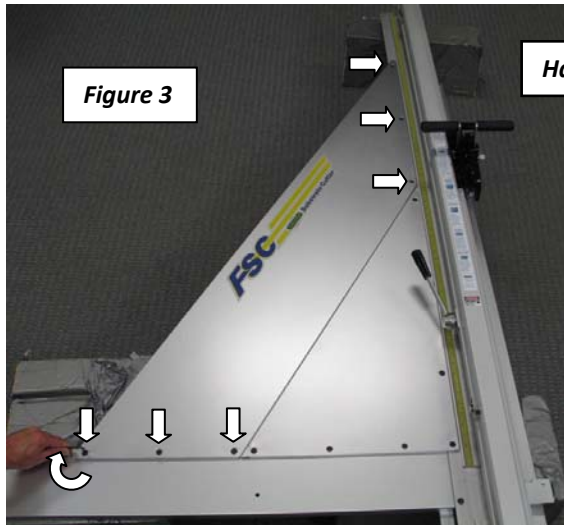

Figure 3
3. Attach the Large Face Plate (item #1), with the remaining six (6) M6 x 20 flat head screws (K). Tighten *all* of the flat head screws now with a 5mm hex/Allen key (Figure 3).